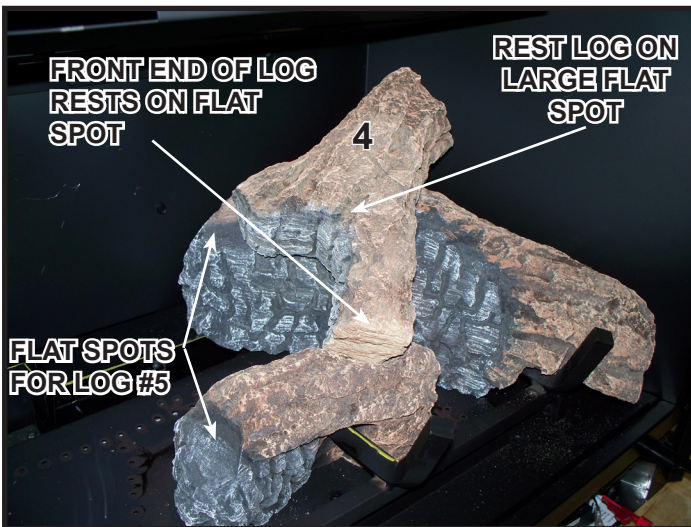
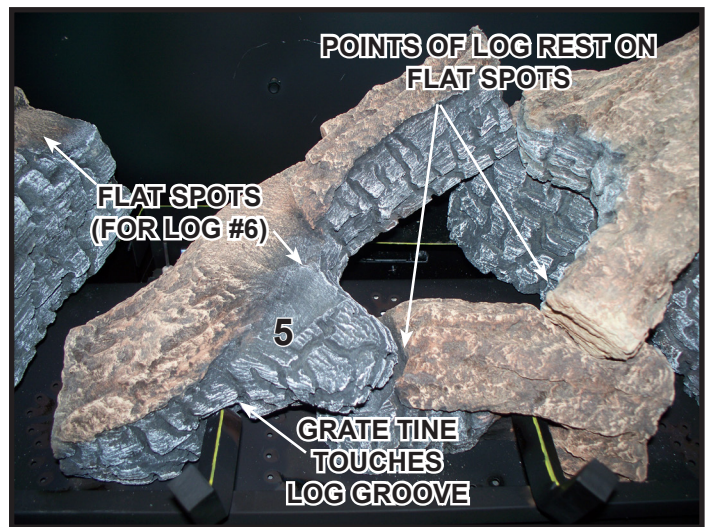

Figure 6. Place Log #4
Figure 7. Position Log #5
**Log #4 (SRV2206-703):** Position Log #4 as shown in Figure 6. See Figure 3 for additional references. Place the thick end of Log #4 on the large flat spot on Log #1. Rest the front end of Log #4 on the flat spot of Log #2.
**Log #5 (SRV2206-704):** Position Log #5 as shown in Figure 7. See Figure 6 for additional details. Mate the grate tine with the log groove as shown. Position the tips of Log #5 on the flat spots as shown in Figure 6.
**Log #6 SRV(2206-706):** Position Log #6 as shown in Figure 8. See Figure 7 for additional references. Rest the left end of Log #6 on the flat spot of Log #3. Position the nose of Log #6 on the fork of Log #5.